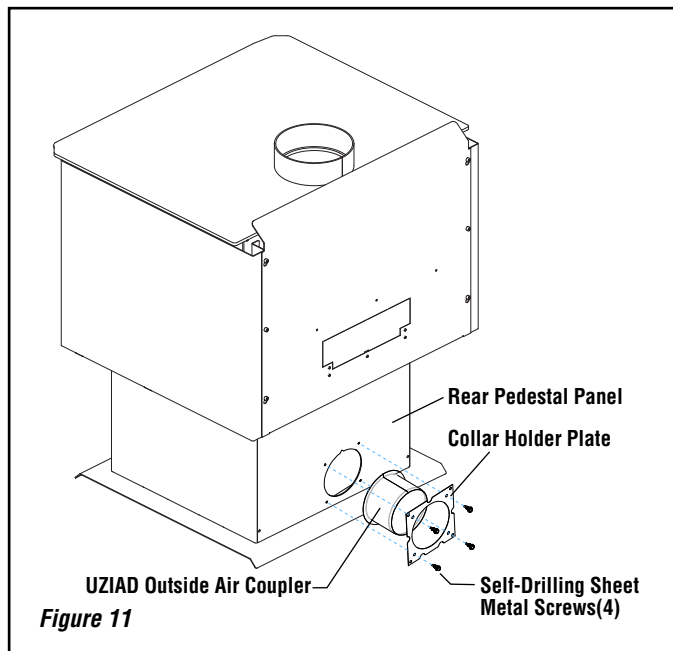

Figure 11
2. **Install rear pedestal panel as shown in Figure 11.**
**Collar with Collar Holder:** - Center the 4" dia. collar on the air intake opening and then secure with the collar holder, using the four (4) 5/8" Tek Screws provided, lining the plate up with the capture holes on the unit. In some instances the capture holes may be absent; the tek screws should then be used to start the holes directly (**Figure 11**).
4. **Install Ducting and Air Register (refer to Figures 11 through 14)** - The outside air assembly may be installed according to the following requirements:
- b) The air intake register must not be installed more than ten (10) feet above the base of the stove.
- Install the coupler onto the existing collar on stove (*see Figure 11*).